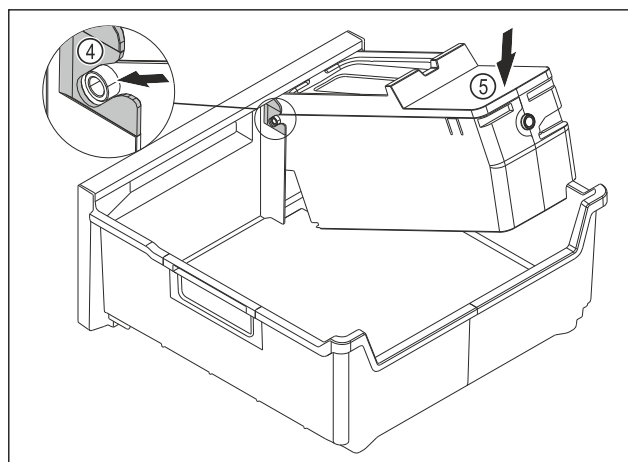

Fig. 138
- Installing the EasyTwist-Ice body: Insert the axes of the EasyTwist-Ice body into the guides Fig. 138 (4).
- Press down the EasyTwist-Ice body Fig. 138 (5) at the rear.